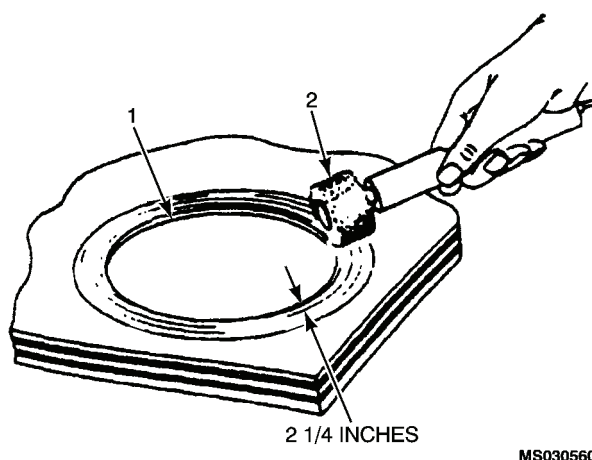

Figure 2-27. Buffing Surface 2 1/4 Inches Larger in all Directions.
(c) Buff surface around damage 2 1/4 inches larger in all directions than damaged area (1, figure 2-27). Use portable drill (2), abrasive arbor, and/or scotch-brite. Buff only to remove glass without excessively reducing outer coating thickness.
(c) Buff surface around damage (1, figure 2-27) 2 1/4 inches larger in all directions than damaged area. Use portable drill, abrasive arbor (2), and/or scotch-brite. Buff only to remove gloss without excessively reducing interior ply thickness.